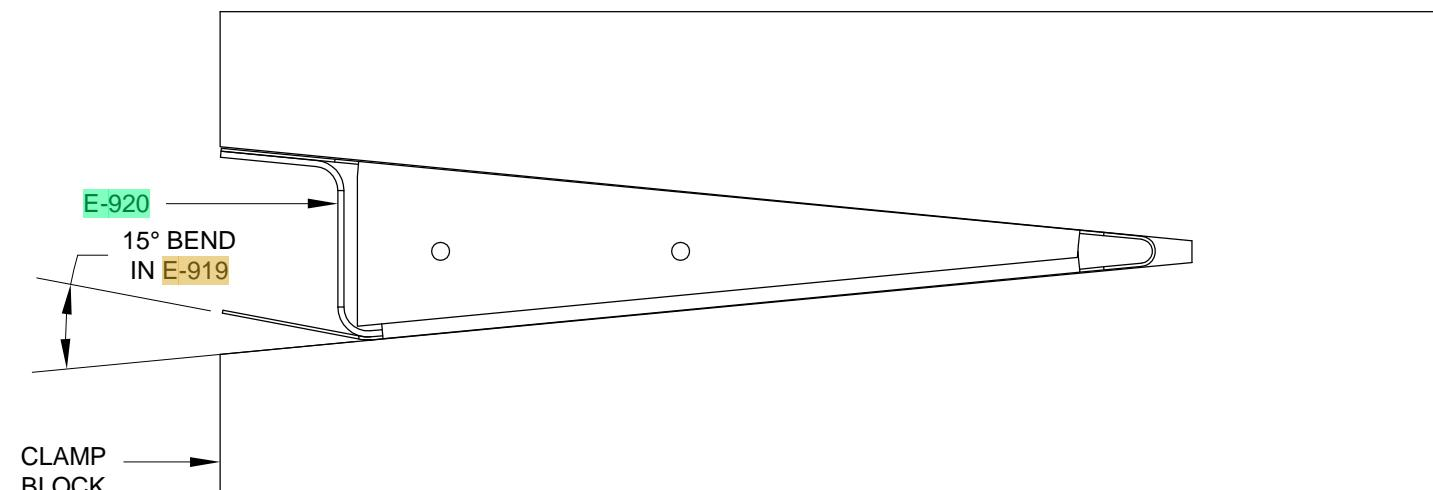

FIGURE 1: DRILLING AND BENDING THE SKIN
Step 1: Once again, cleco the E-920 Trim Tab Spar to the E-919 Trim Tab Skin. Slip the clamp blocks over both ends of the skin to hold the skin in the proper shape as shown in Figure 1. Match-Drill the holes of the outer tabs into the inner tabs using a #30 drill.
Step 2: Remove the clamp blocks, then mark the lower surface of the skin at the web of the E-920 Trim Tab Spar for the 15° bend shown in Figure 1. Remove the spar, make the bend, then replace the spar.